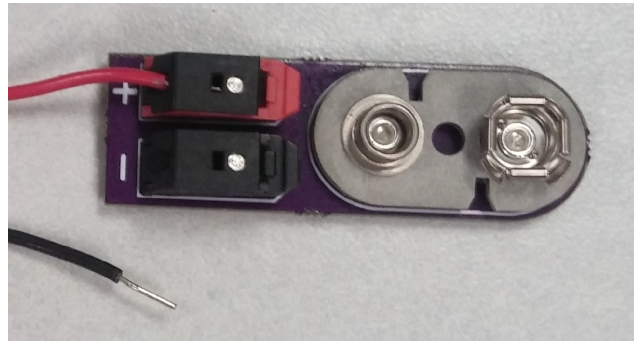

Figure 4: Snap Connector
- Snap connector adapter (fig. 4)
Snap Connector (fig. 4): Used with a Pup, Retriever, or DataScout Modem.